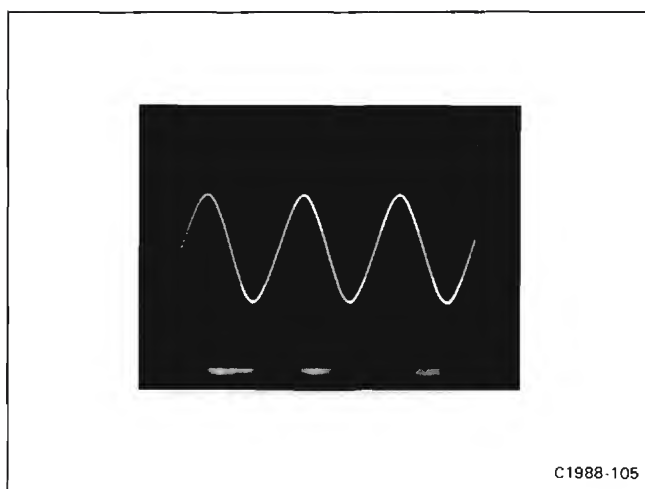

Figure 3-10. Waveform at TP34 on the A23-Inverter board with the line voltage at about 20 volts.
6. If no burst waveform occurred in part 4, repeat part 1 of this step. Then remove the current probe from the 7854 and the test oscilloscope. Connect a 10X voltage probe from the test oscilloscope to TP1234 on the A23-Inverter board. Set the variable autotransformer for 20 volts and check for a filtered line waveform which is centered about 0 volt. (see Fig. 3-10). If the waveform is not centered check Q46, CR32, CR40, CR49, and CR45 for shorts or leakage.